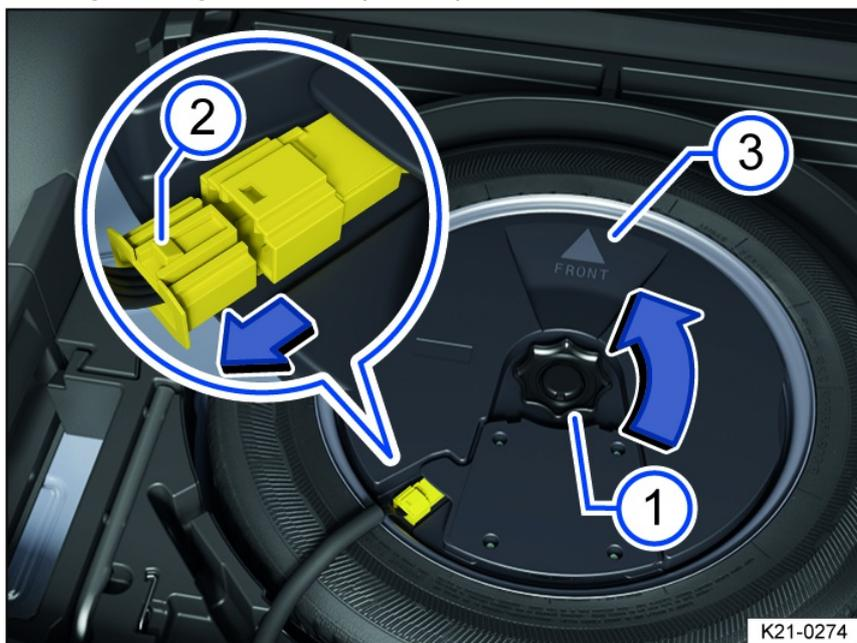

Fig. 217 In the luggage compartment: removing the subwoofer (version 2).
3. Remove the handle fig. 217 in the direction of the arrow.
4. To release the connector, press the locking mechanism on the end of the connector fig. 217.
1. Place the subwoofer carefully in the rim well. The point of the "FRONT" fig. 217 arrow symbol on the subwoofer must face forward.
2. Connect the connector until the lock fig. 217 latches into place.
3. Turn the handwheel fig. 217 on the threaded pin in the opposite direction to the arrow until the subwoofer is securely fastened.